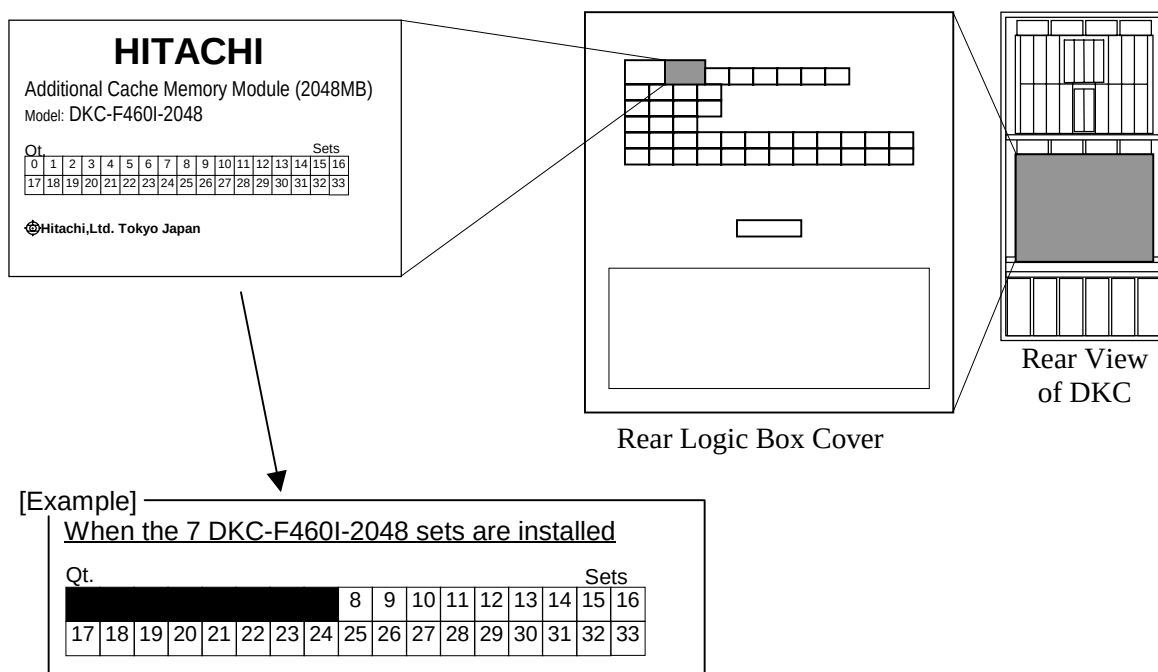

Fig. 4.3.2-9 Location of the Nameplate
- a. Refer to Fig. 4.3.2-9 to wipe off unnecessary numbers on the nameplate.